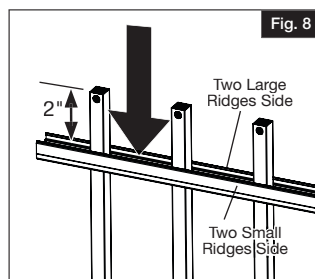

Fig. 8
- Mark the two hole locations shown (Fig. 8) for each bracket and pre-drill using a $\frac{1}{8}$ " bit.
- c. Make sure the balusters in the rails are about 2" above the rail and in-line with each other (Fig. 8).